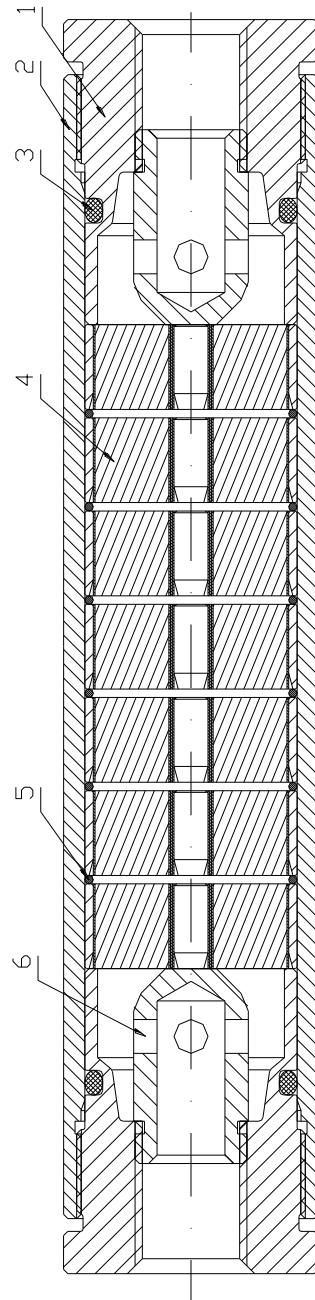

Fig. 1
(See figure 1)
(See fig.1)
Reassemble Volume End of Line Deflagration Flame Arrester in reverse order – please pay attention to assembling the spacers (pos. 5) and flame arrester element (pos. 4) in the right order. (Refer fig. 1)
- Spare part no. (Please refer to **fig. 1** for items)